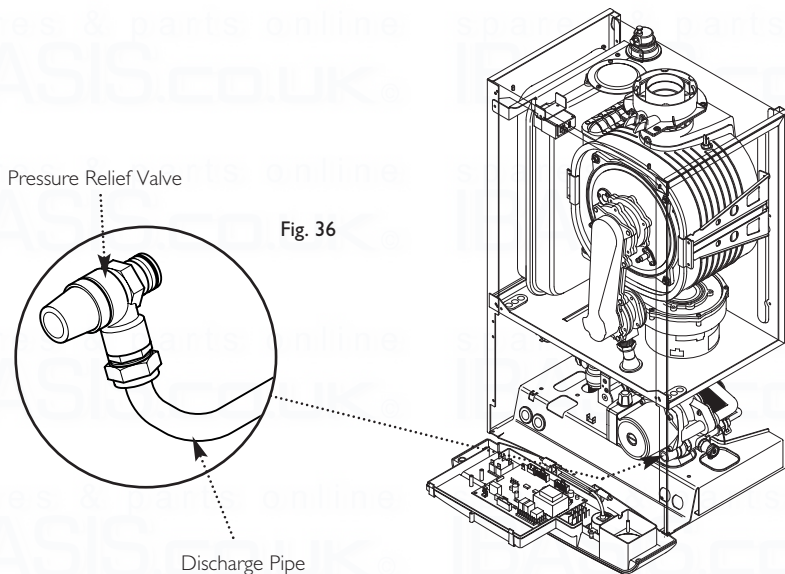

Fig. 36
10.4 Fitting the Pressure Relief Discharge Pipe (Fig. 36)